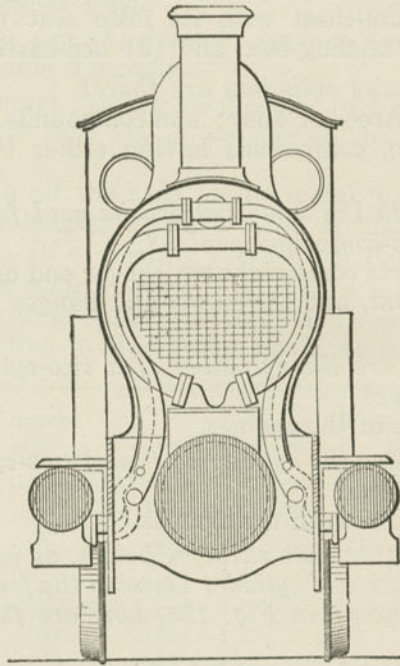

Fig. 122. Arrangement of Cylinders, Webb Compound Locomotive.
A. (1) Cylinder proper with its bushing and stuffing-box, (2) steam-chest with its false seat (should there be one) and stuffing-box, and (3) bed-casting or saddle.
*Q. Where there are three cylinders, as in a compound locomotive with one cylinder between the frames and two outside, as shown in Fig. 122, how are the cranks arranged?*